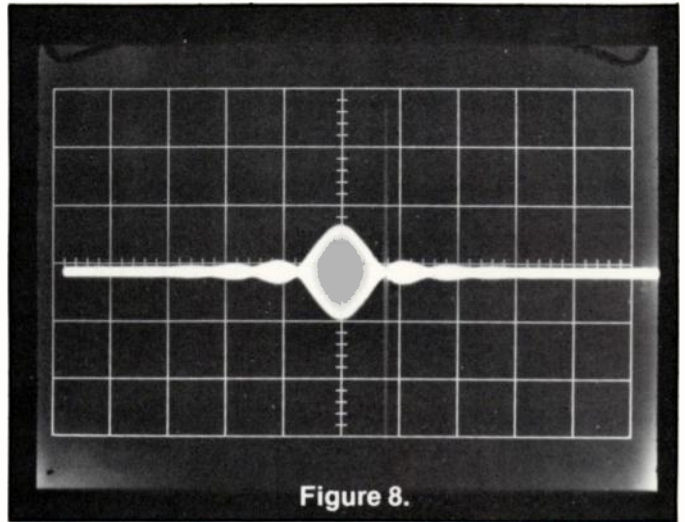

Figure 8.
4. Single Pulse and CW Signal: Figure 8 shows the receiver output when both a single RF pulse and a CW tone are present simultaneously in the analysis band. The two signals are easily distinguishable. Since the pulse bandwidth is starting to approach the system bandwidth, there is some distortion of the normal $\sin x/x$ spectrum. This type of distortion is reasonably insignificant if the pulse width is greater than $4/\Delta F$ in length.